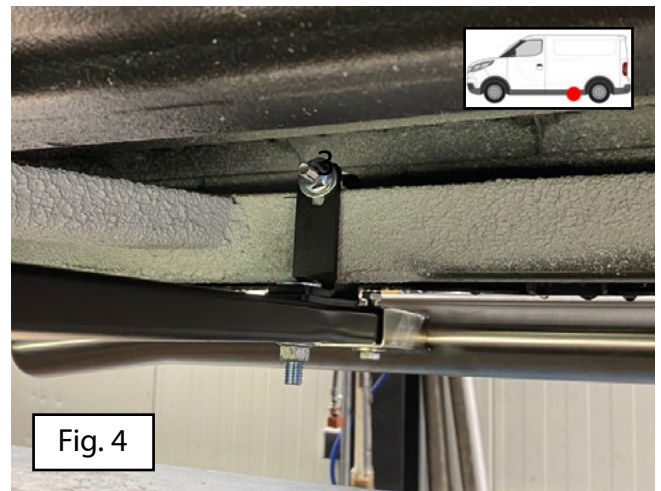
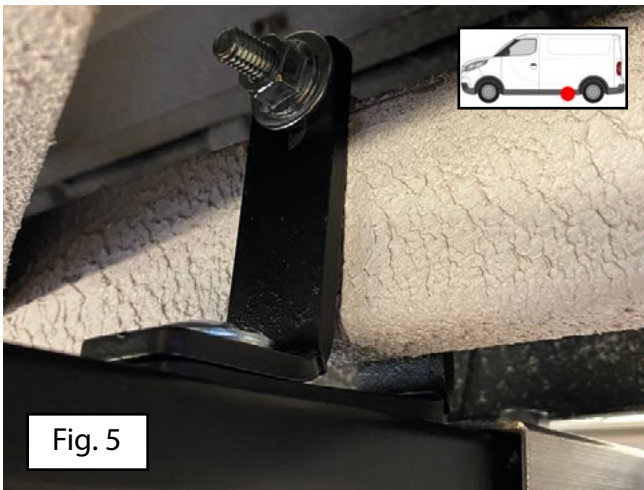

Fig. 4
Fig. 5
4. Mount the second frame and do not tighten it as well. (Fig. 4 + Fig. 5)